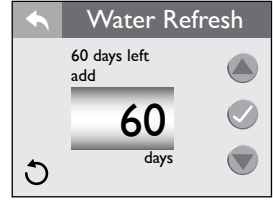

Figure 12.7d
1. From the “Water Care” Menu you can to set the “Water Refresh” timer, Figure 12.7d.